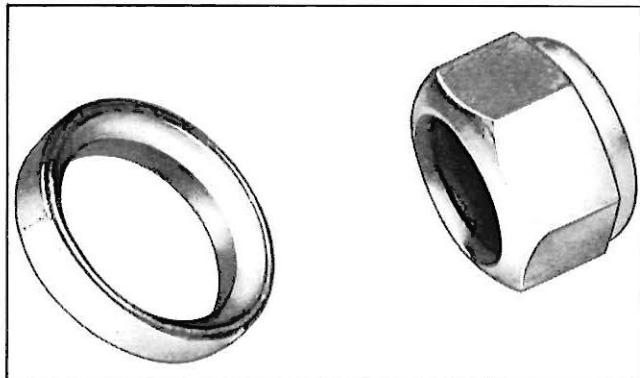

Fig. 36—Special Washer and Nut
16. Remove assembly from press and position the special impeller washer (fig. 36) with dished side upward and install (LEFT HAND THREADS) the self-locking nut on the turbine shaft. Use a folded cloth to hold the